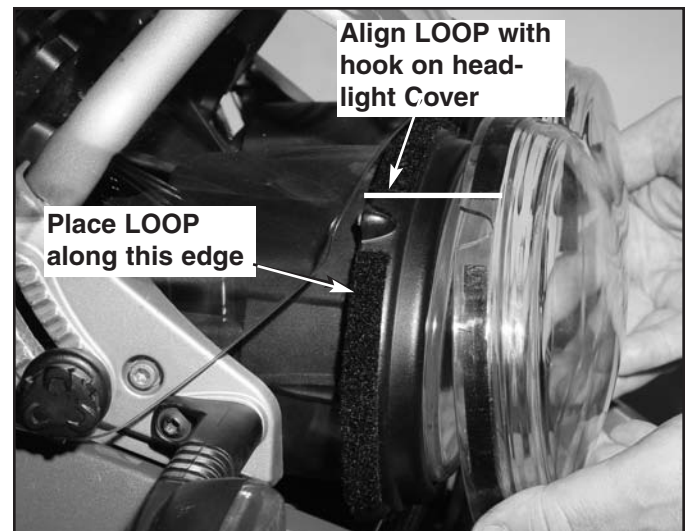

Figure 1 Installation pictured on the R1200GS
3. Place LOOP to the back edge on headlight rim. Align the ends of the LOOP with the HOOK that is placed on the Headlight Cover. Figure 1